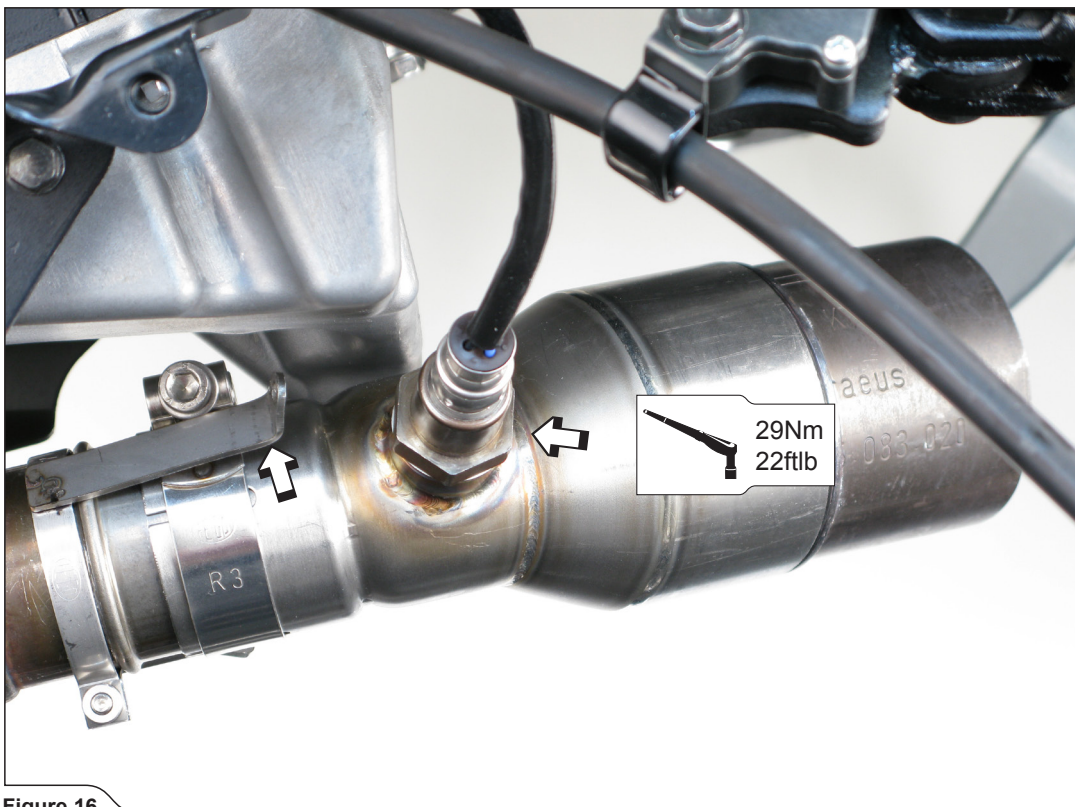

Figure 16
4. Slide the link pipe onto the stock collector (Figure 15). Tighten the lambda sensor (Figure 16).